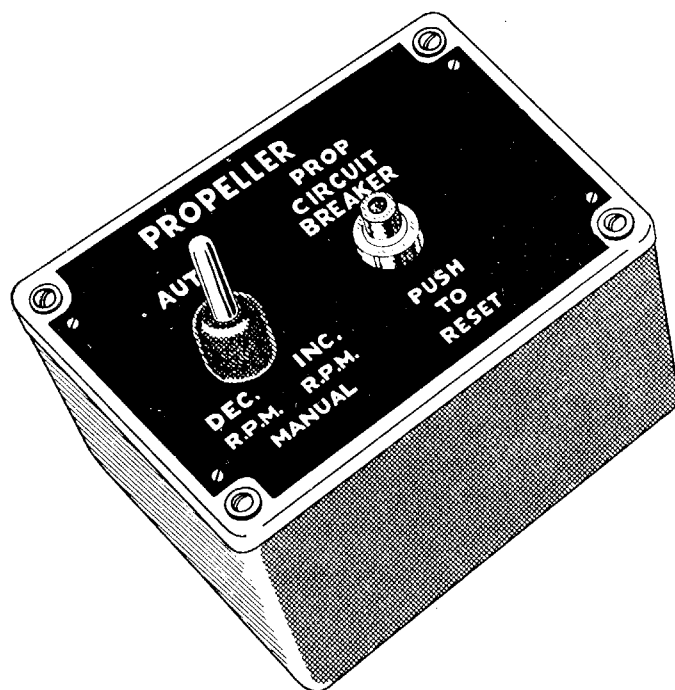

Figure 8 — Propeller Switch Panel
(1) **THROTTLE.**—The throttle (see figure 8) is the outboard control lever on the engine controls quadrant. Its operation is conventional; to open the throttle push it forward. The quadrant is equipped